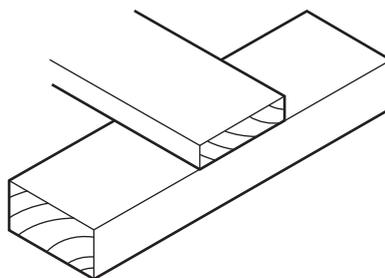

Fig. 2.1
- 2 Fig. 2.1 shows two pieces of softwood that will be joined using panel pins.
- (a) Add sketches to Fig. 2.1 to show how the two pieces of softwood could be joined by means of ‘staggered’ nailing.